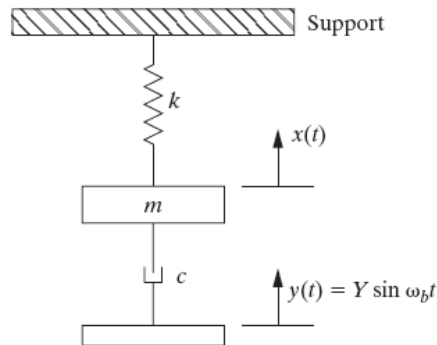

Figure P2.40
- 2.40** Consider the base excitation problem for the configuration shown in Figure P2.40. In this case the base motion is a displacement transmitted through a dashpot or pure damping element. Derive an expression for the force transmitted to the support in steady state.